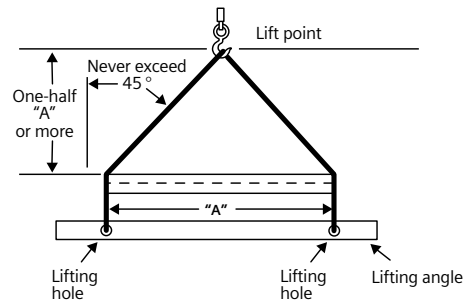

Figure 2: Proper method for lifting a motor control center
3. Do not allow the angle between the lifting cables and vertical to exceed 45° as shown in Figure 2.